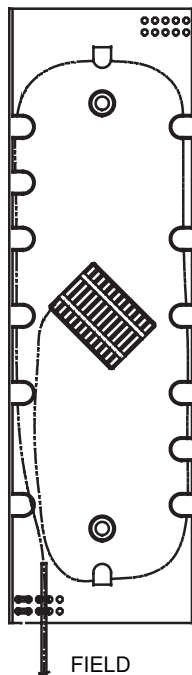

FIGURE 24 - ROUTING FIELD SIDE FIBERS ON SPLICE TRAY (NARROW TRAY SHOWN)
- 12.09** Route the fibers from the field side 2-1/4 times around the splice tray and into the left side of the splice block(s) as shown in Figure 24.